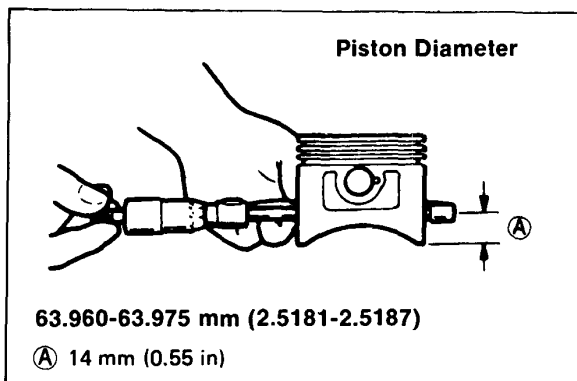

Figure 4-37
1. Measure the outside diameter of the piston. The piston should measure 63.960 — 63.975 mm (2.5181 — 2.5187 in.). If the piston measures less than 63.915 mm (2.5163 in.) replace it. See Fig. 4-37.